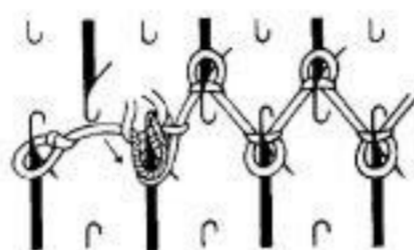

Fig. 75
- Using the single eye transfer tool, transfer the end stitch onto the empty end needle brought forward into working position – see Fig.75.